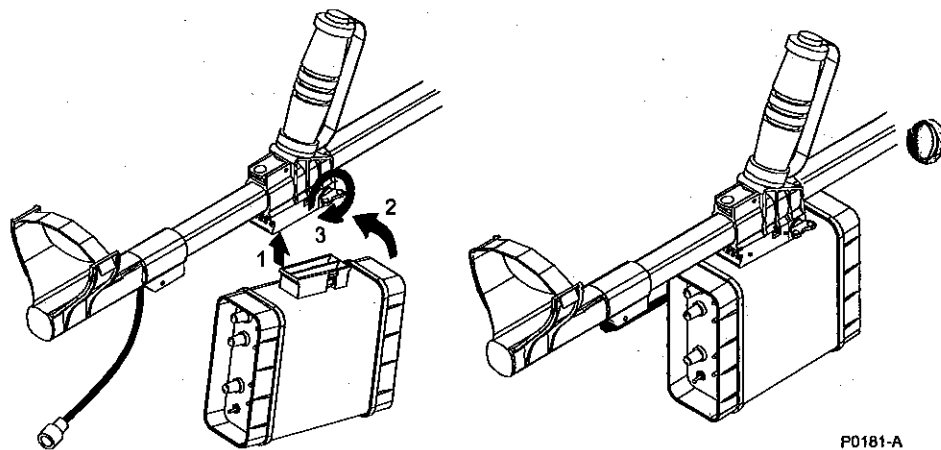

Figure 6 - Mounting the Control Box on the Shaft
- b. If the Control Box is to be mounted on the Upper Shaft, the mounting block on the Control Box is pushed into the locking bracket immediately beneath the Handle (see Step (1) then (2) on Figure 6). Rectangular lugs on the mounting block snap into rectangular holes on the sides of the locking bracket to hold the Control Box loosely in position. To lock the bracket, turn the locking pin at the front end of the bracket clockwise until it stops (Step (3)). The plug end of the coil cable is then connected to the 'Coil' socket on the Control Box and the Military plug on the end of the battery cable is connected to the 'Power' socket.